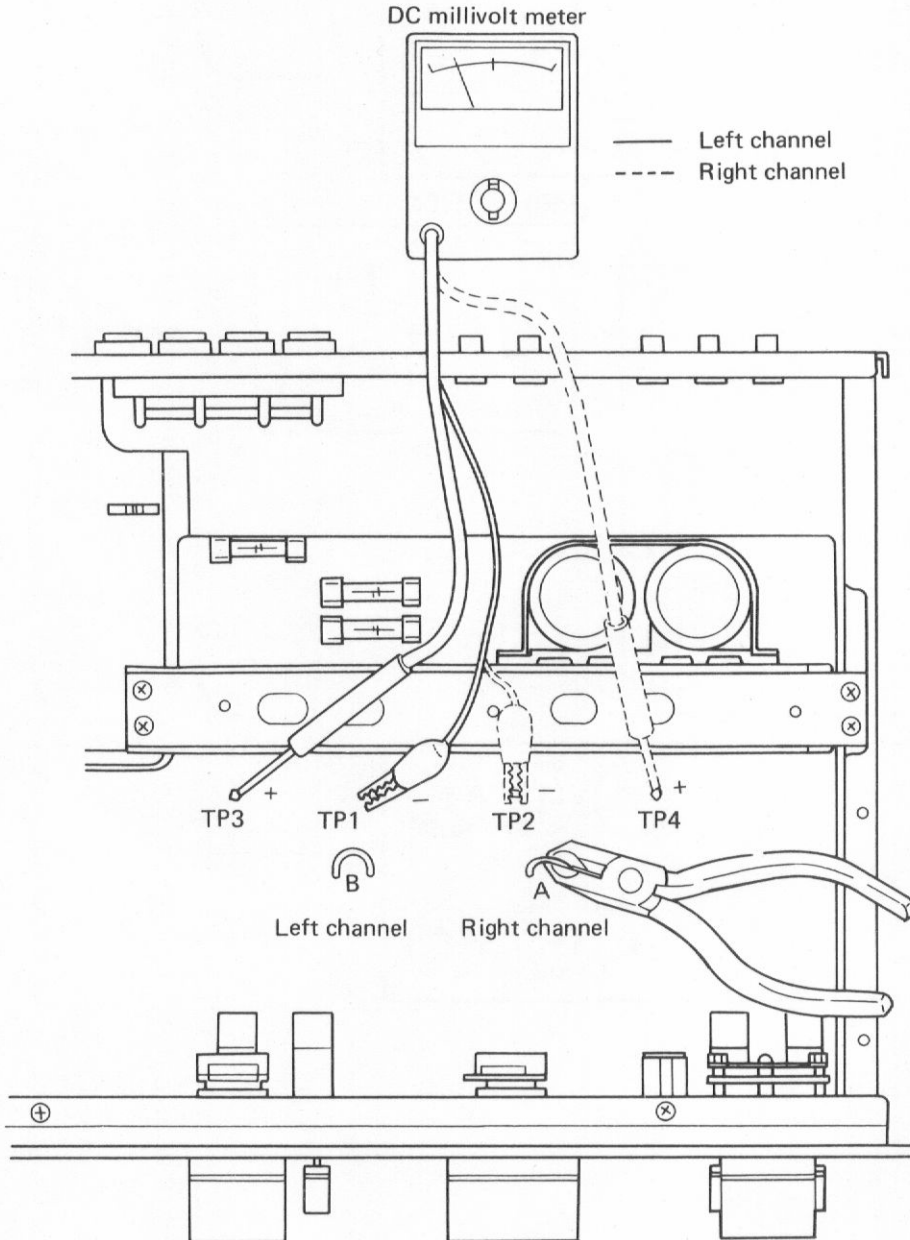

Fig. 3 Connection Diagram of Idle Current Adjustment
2. Connect as shown in Fig. 3.